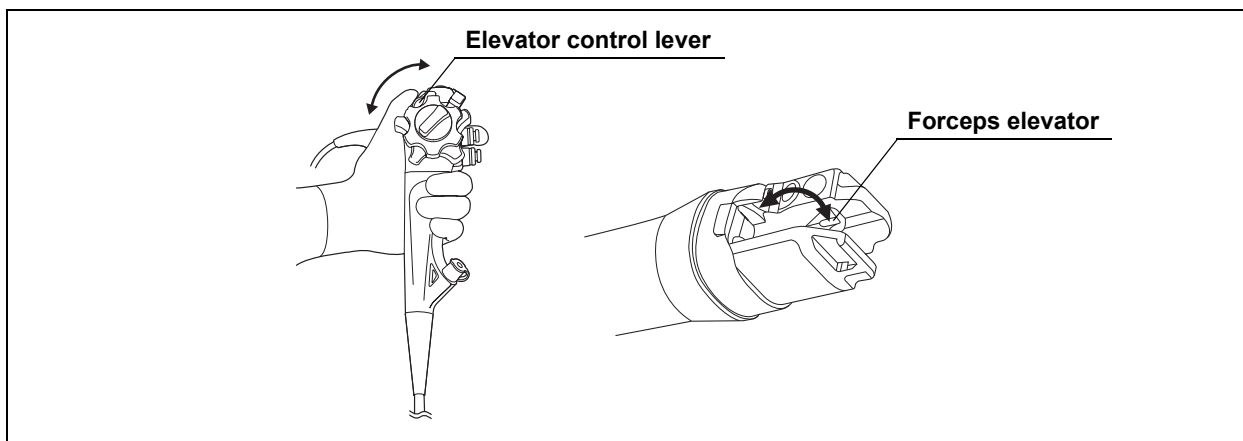

Figure 3.22
- 4 Confirm that the forceps elevator remains stationary when pushed from behind while holding the elevator control lever stationary. (See Figure 3.22)